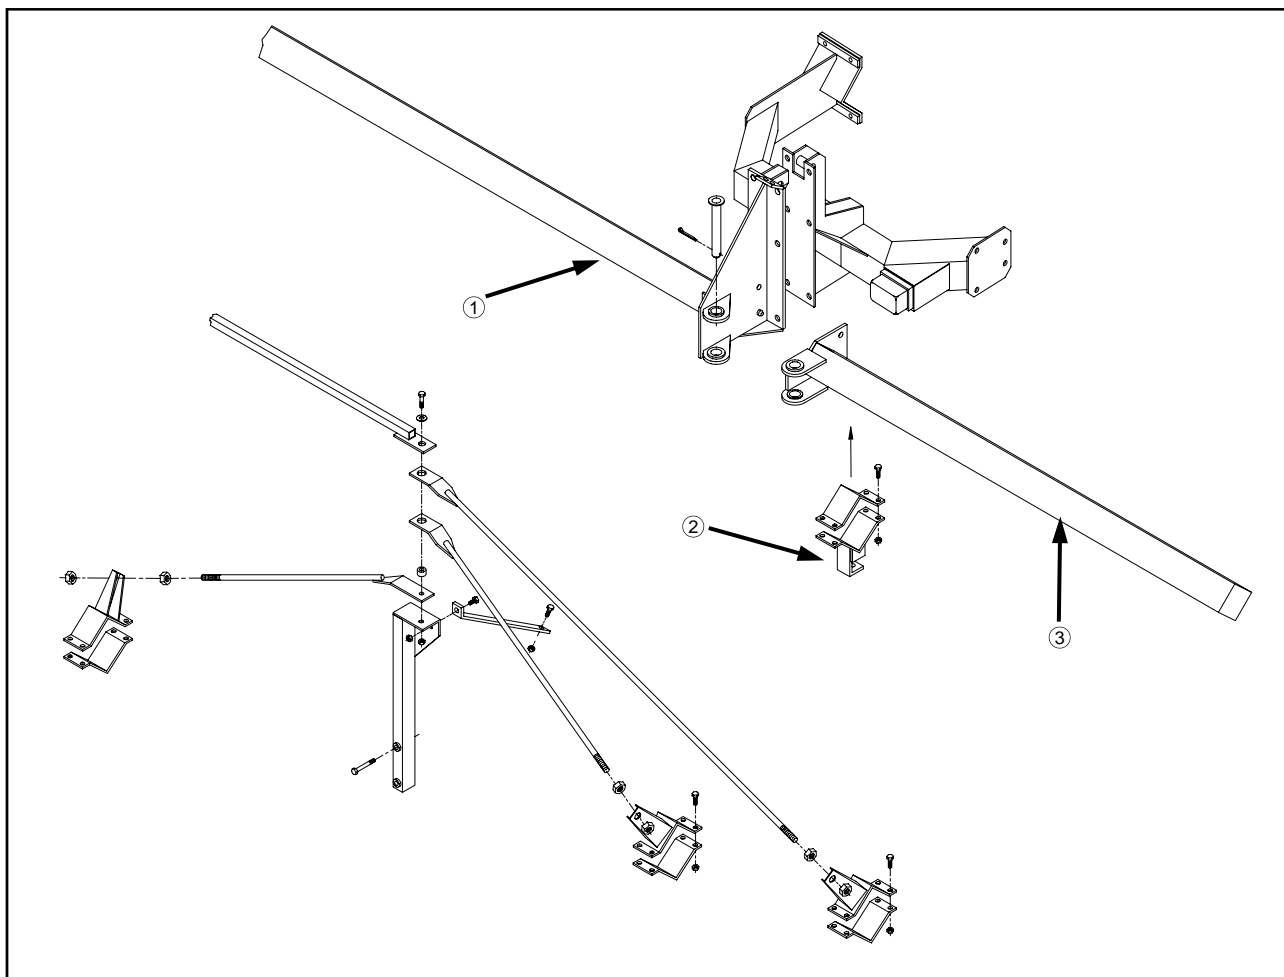

FIG 3.8
1. Attach the center tool bar (fig. 3.8, item 1) and bolt it in place according to 2101 SPRAYER/DETASSELER Parts Manual.
2. Attach left and right outriggers (fig. 3.8, item 3) with supplied hardware. Refer to 2101SPRAYER/DETASSELER Parts Manual.
4. Attach fold cylinder mounts (fig. 3.8, item 2) on outriggers.